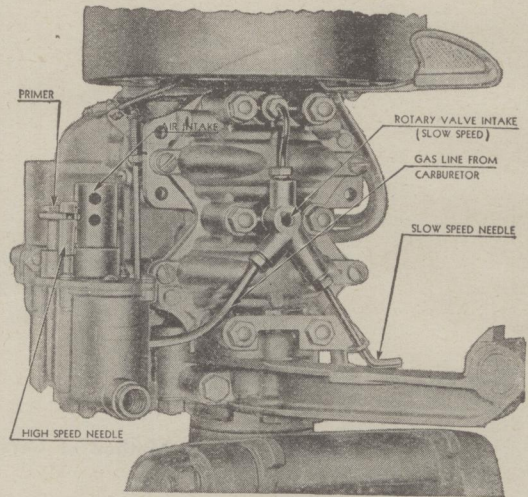

Fig. 12
Carburetion is of the full range type, thus providing efficient carburetion at all speeds—some departure from customary construction has been made nevertheless, in that only the high speed needle and jet are built into the carburetor body; the slow speed needle and jet are actually not a part of the carburetor proper—this feature is part of the crankcase assembly as shown in Fig. 12 and functions throughout the entire speed range of the motor.
Since both third port and rotary valve principles are employed, there are two independent systems of carburetion. The carburetor itself is of the conventional type—consisting of a float chamber, mixing chamber, throttle valve, needle for adjusting mixture and a connection to the intake manifold. The carburetor and third port operate only at intermediate and high speeds and cease to function entirely at slow speeds. Slow speed operation is maintained, however, by mixing air and gasoline in the slow speed opening which is conducted to the crankcase chamber by way of the rotary valve. Fig. 12 and 13.
1. Close slow speed needle, Fig. 12, turn right until it rests gently on its seat, then unscrew approximately $\frac{3}{4}$ turn. (Turn left.)
5. Retard spark by moving magneto lever to position midway between center and full retard (left of center facing motor). Turn slow speed needle, Fig. 12, to left or right as required to obtain smooth and consistent running at slow speeds.